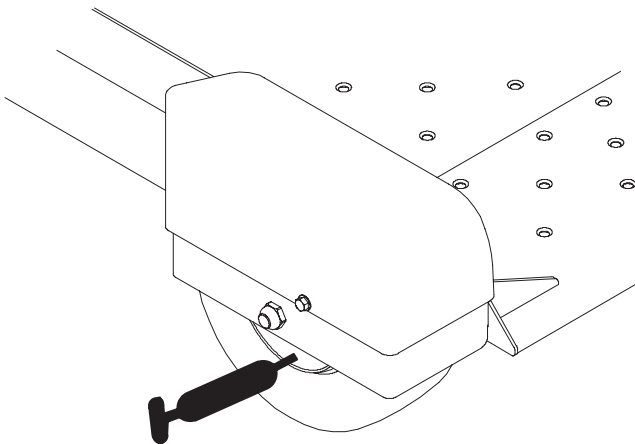

Figure 6
2. Connect a grease gun to each fitting (Fig. 6).